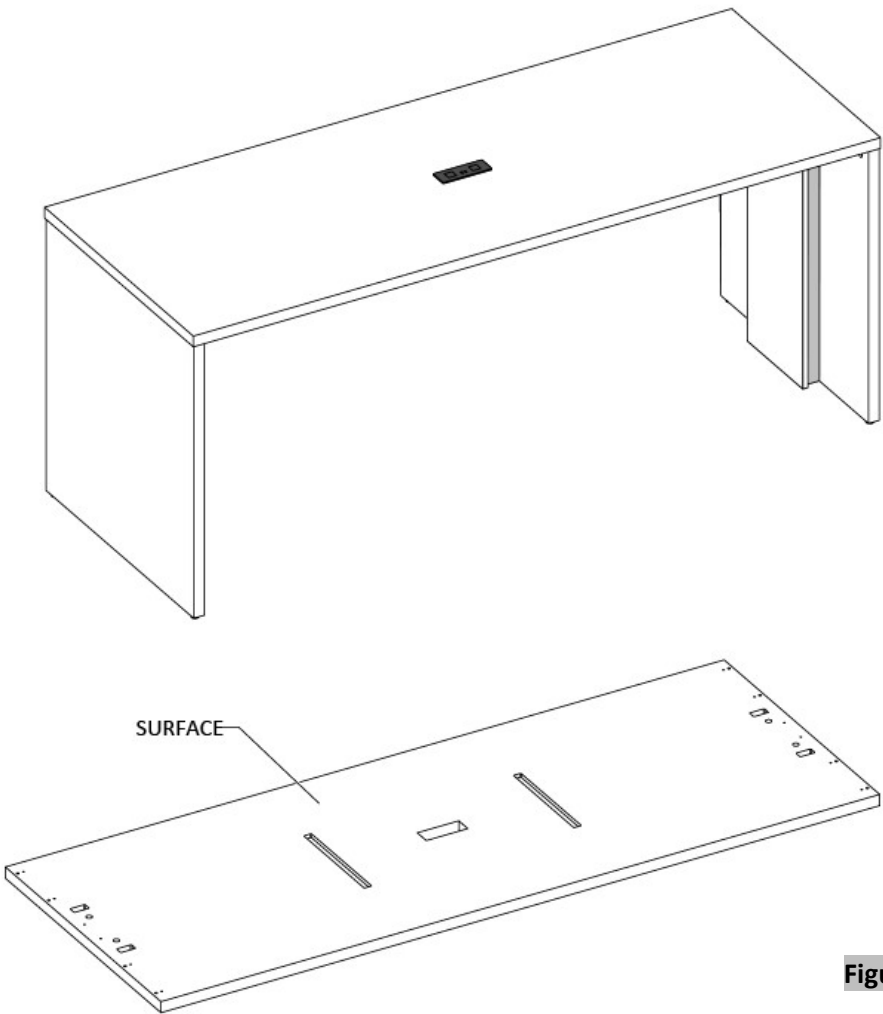

Figure 1
- 13. Place the surface face down on a clean solid surface or floor with the underside facing up, (Figure 1).